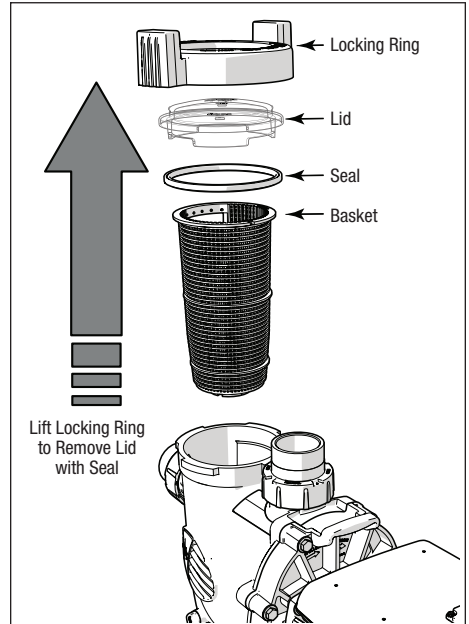

Figure 18. Remove Pump Lid
- 1. Remove the seal from the lid. See *Figure 18*.